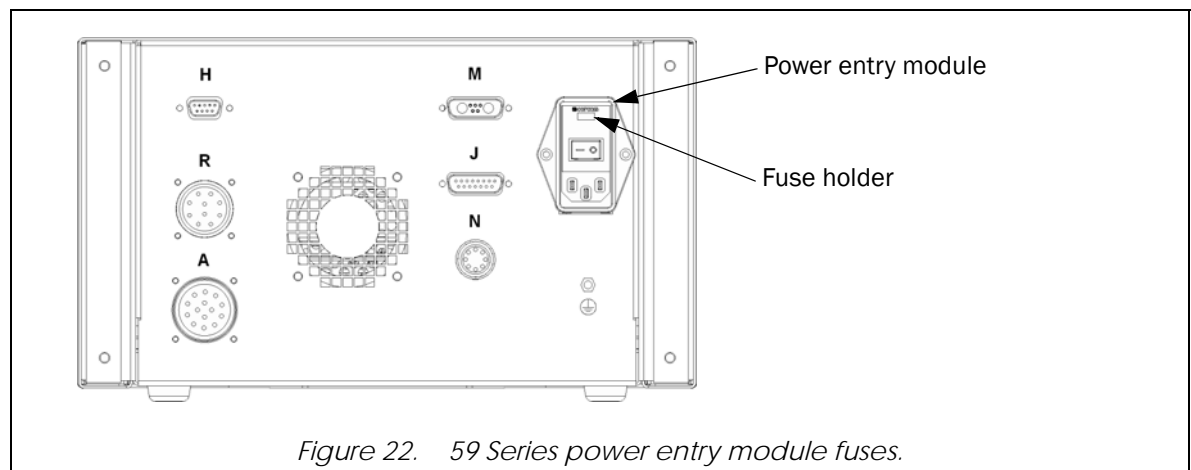

Figure 22. 59 Series power entry module fuses.
2. Depress the tab of the fuse holder (see Figure 22) and remove it from the power entry module.